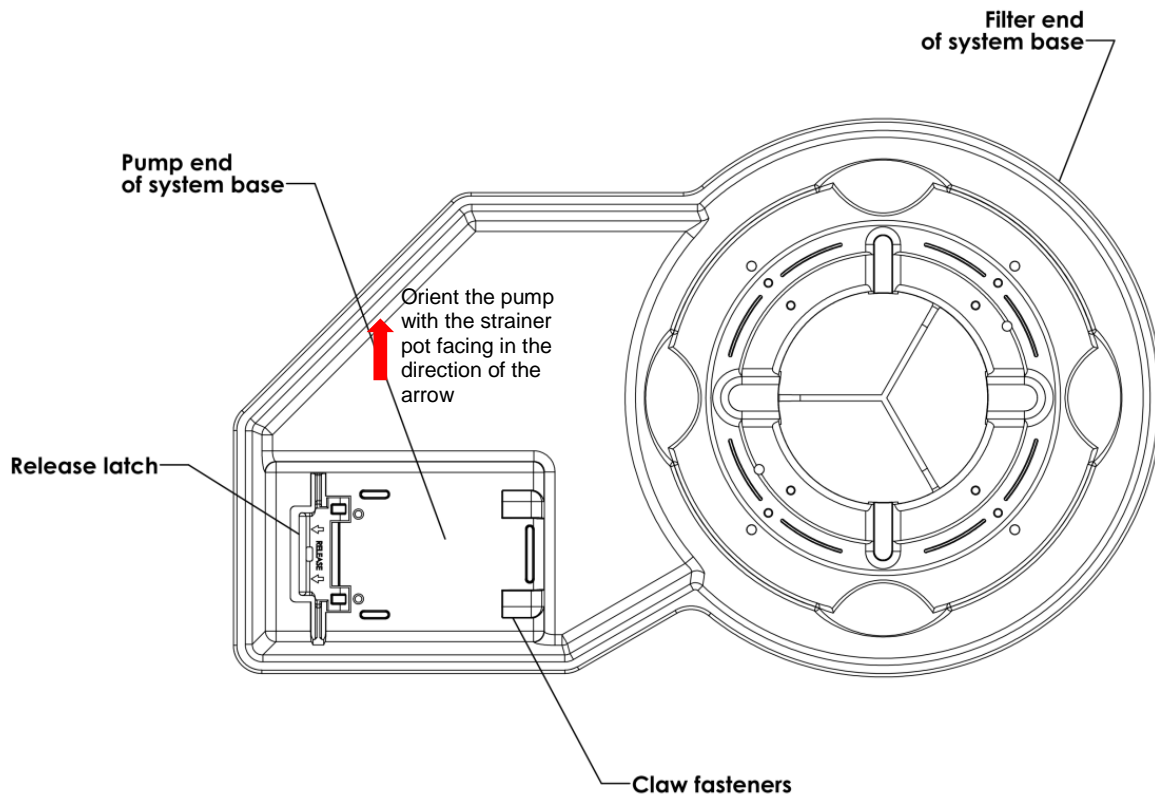

Figure 1
1. Orient the pump so the pump strainer pot faces in the direction of the arrow (see Figure 1).